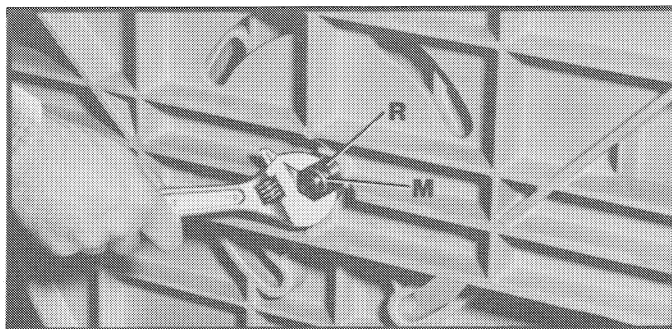

Fig. 35
12. After leveling the tables, check the table retaining nut (M) Fig. 35, on the underside of the fixed table. The nut (M) should **JUST CONTACT** the brass bushing (R). **IMPORTANT: DO NOT OVERLY TIGHTEN NUT (M).**